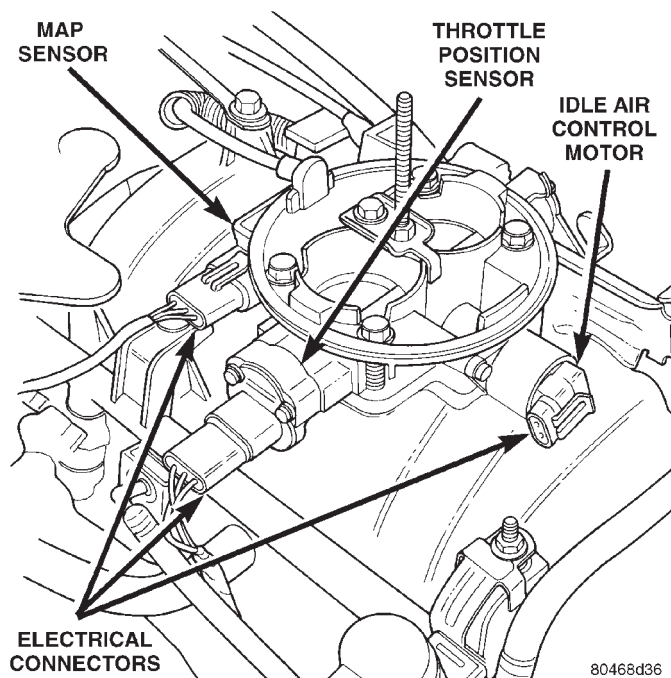
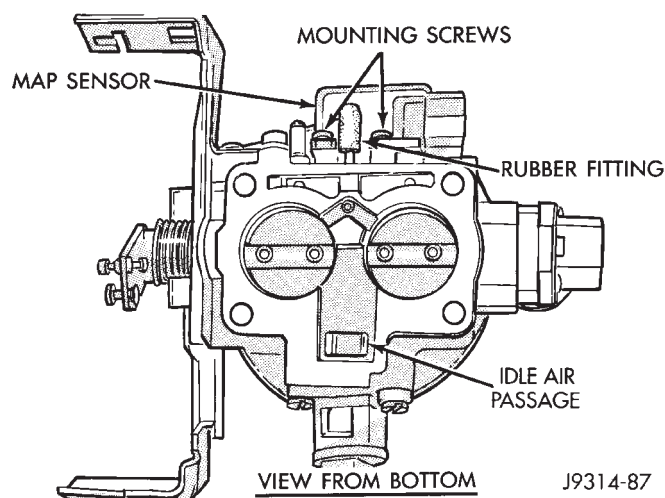

Fig. 27 Sensor and IAC Motor Location—5.2L Engine
Fig. 28 Rubber L-Shaped Fitting—MAP Sensor-to-Throttle Body
(16) Verify that MAP sensor electrical connector is firmly connected to MAP sensor (Fig. 27). Also verify that rubber L-shaped fitting from MAP sensor to the throttle body is firmly connected (Fig. 28).
(17) Verify that fuel injector wire harness connectors are firmly connected to injectors in the correct order. Each harness connector is numerically tagged with the injector number (INJ 1, INJ 2 etc.) of its corresponding fuel injector and cylinder number.
(18) Verify harness connectors are firmly connected to idle air control (IAC) motor, throttle position sensor (TPS) and manifold absolute pressure (MAP) sensor (Fig. 27).